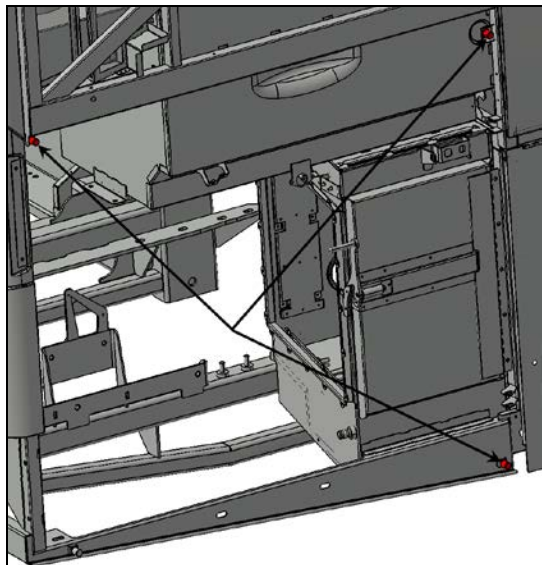
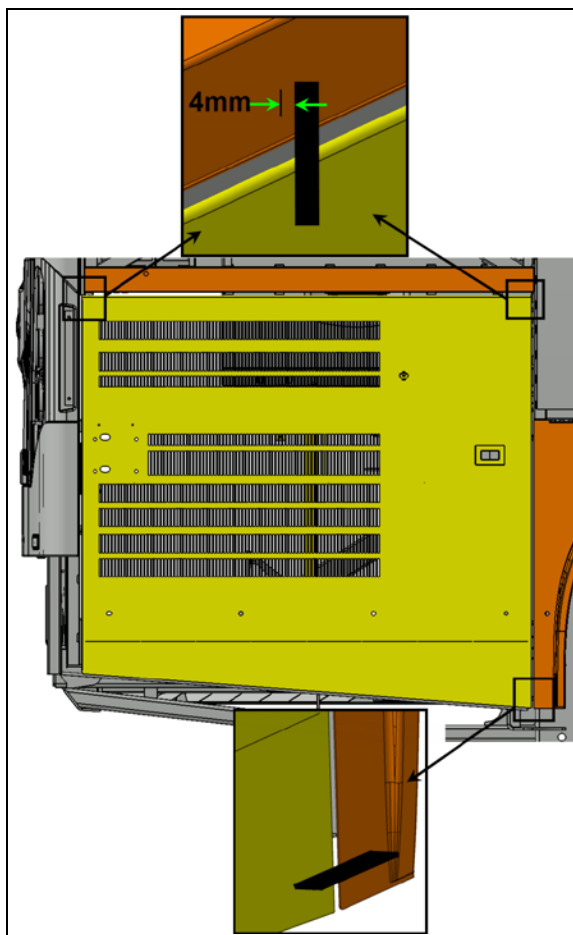

FIGURE 128
FIGURE 129
18. Screw in or out the two upper stoppers so that the upper part of the door exceeds the horizontal member by $5/32"$ to $3/16"$ (4mm to 5mm) (see FIGURE 128 & FIGURE 129).